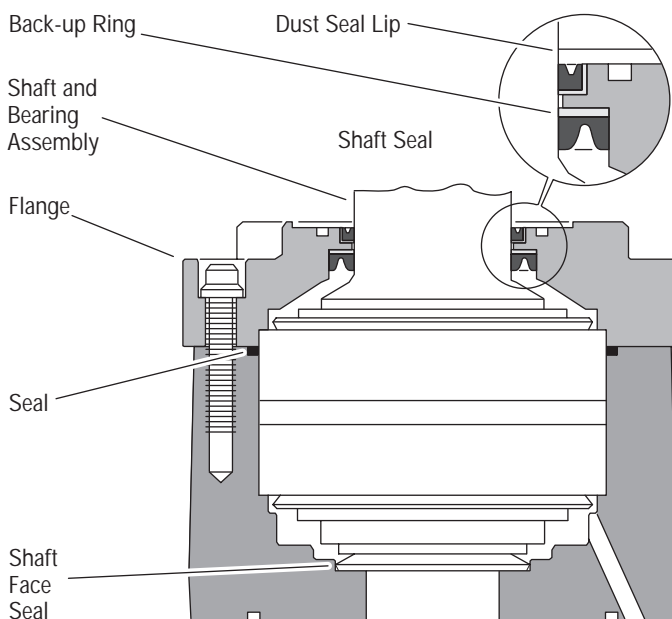

Figure 13
**23** Apply petroleum jelly to 88,6 [3.49] ID seal. Install seal in seal groove of bearing housing (see Figure 13).
**24** Use a small press, if available, to install dust seal in retainer. Metal side of dust seal must face toward flange, as shown in Figure 13. If a press is not available, use a plastic or rubber hammer to tap dust seal in place.
**25** Install 92,1 [3.62] ID seal, back-up ring and shaft seal in retainer. Flat or smooth side of shaft seal must face toward retainer as shown in Figure 13. Apply petroleum jelly to inside diameter of shaft seal (after installing seal).